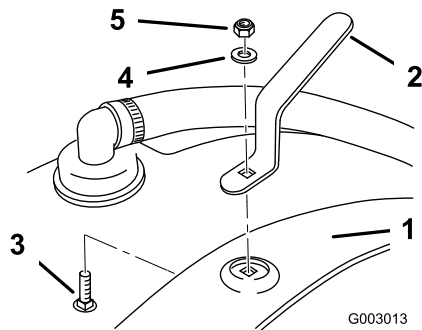

Figure 5
3. Install the upper hose hook as shown in Figure 5 using a carriage bolt (5/16 x 3/4 inch), a washer (3/8 inch), and a flange nut (5/16 inch).